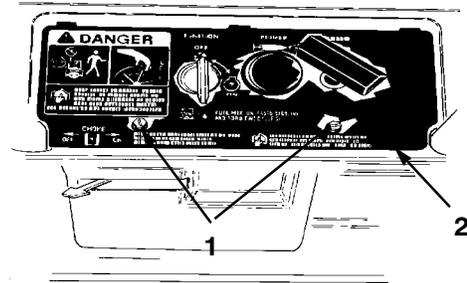

Figure 10
3. Remove the two screws that secure the control panel to the housing (Fig. 10).
2. Remove the two screws that secure the control panel to the housing (Fig. 10).